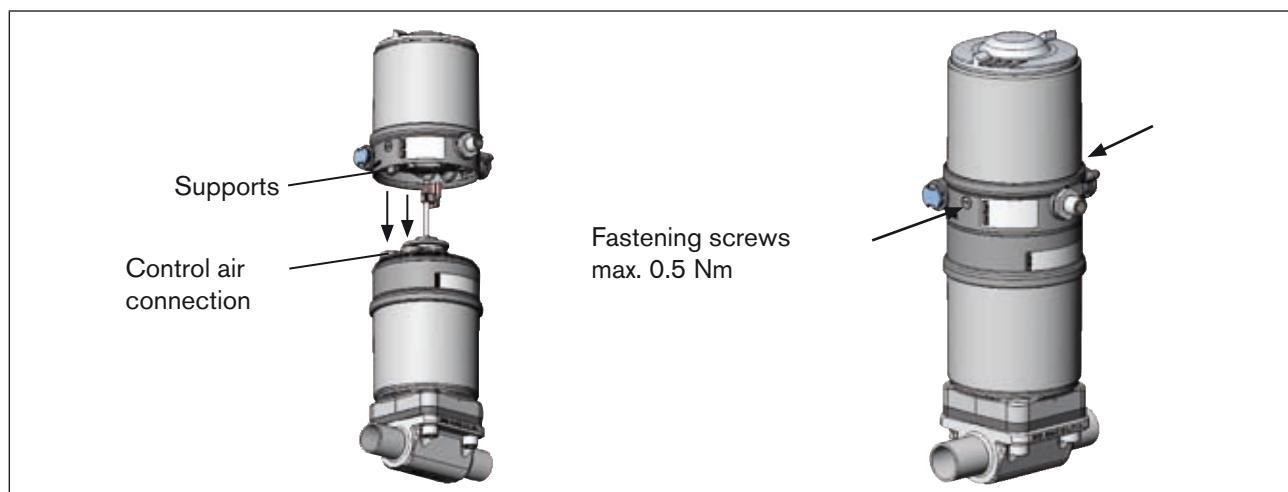

Fig. 16: Installation of positioner, series 2103, 2300 and 2301
2. the supports of the positioner can be inserted into the control air connections of the actuator (see also „Fig. 16: “).